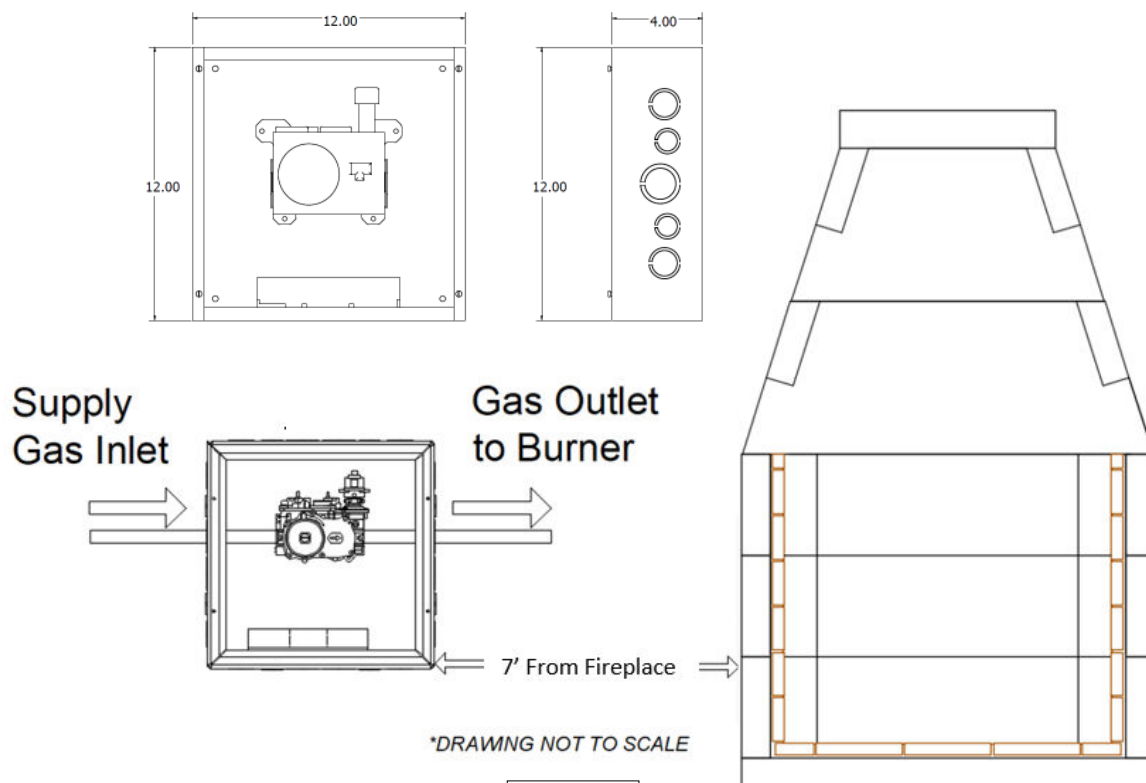

FIGURE 34
1. The valve control box comes with a 110" pilot assembly lead; therefore, the box's metal enclosure must be mounted within 7' of the fireplace. Valve controls are contained in a 12" x 12" x 4" NEMA1 enclosure. **(Figure 34)**